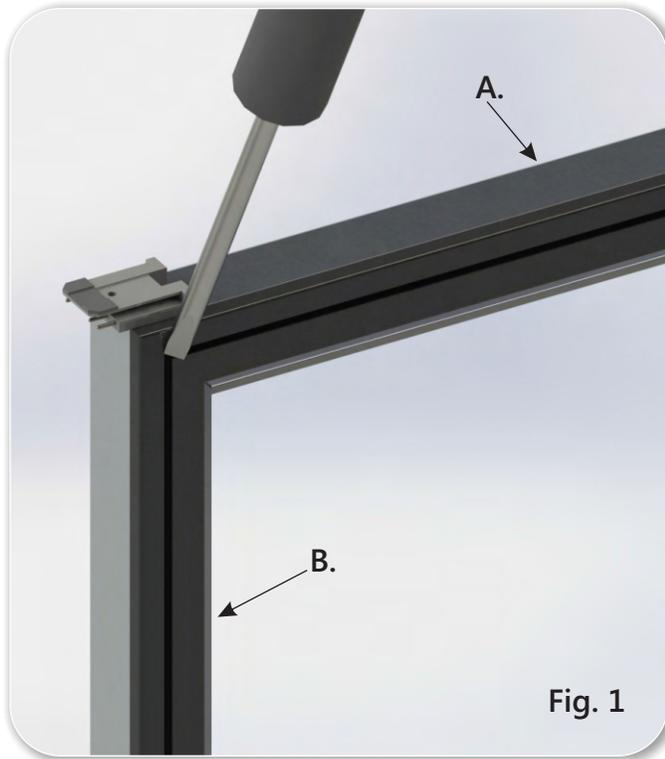

Fig. 1
Disconnect frame from power source. Remove the door. Remove the magnetic gasket (A) by starting on the upper corner and work your way down. Carefully remove plastic (B) cover with a screwdriver, starting at the upper corner (Fig. 1). If plastic cover becomes damaged it has to be replaced.
1. Remove the magnetic gasket (A) by starting on the upper corner and work your way down (Fig. 1).
1. Remove the back vinyl (X) as much as necessary to access the inner door rail (X), this will allow access to the handle mounting screws (C) (Fig. 1).